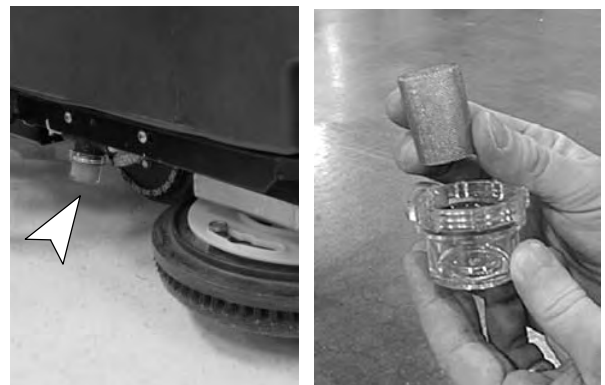

FIG. 35
4. FaST Model: Open right side skirt housing, remove and rinse out inline strainer filter. Before removing filter, be certain solution tank is empty (Figure 35).